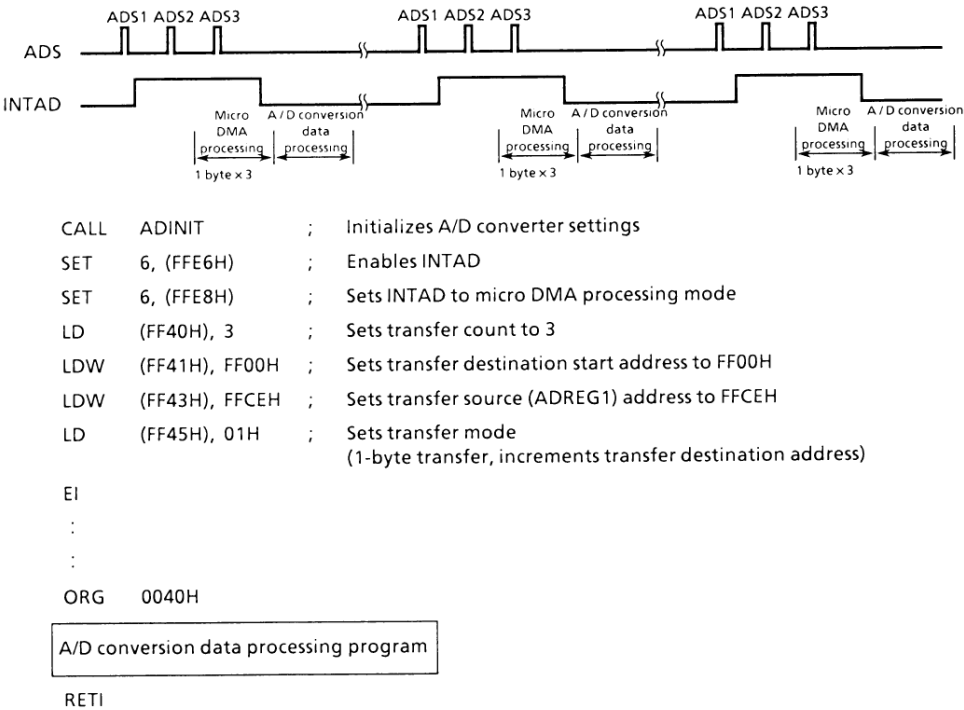

Figure 3.3 (5). Micro DMA Processing Example
This is an example of executing and “A/D conversion data processing program” after saving 3-byte conversion data into the memory addresses from FF00H to FF02H (built-in RAM area), by using INTAD which is enabled when the ADS1 conversion ends in a case where the external A/D conversion request signal (ADS) is entered as shown in Figure 3.3 (5).